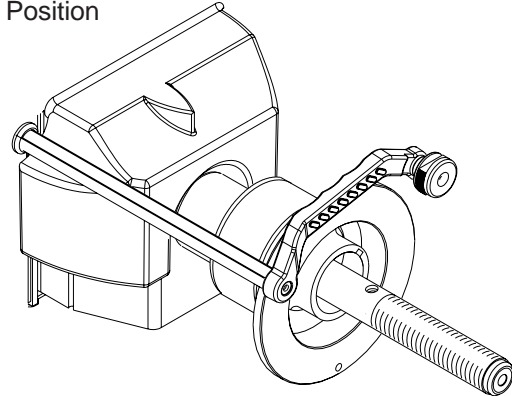

Figure 42 - SAPE Rod Arm Fully Extended
4. Gently pull the SAPE arm OUT until it is fully extended, (Figure 42) hold it steady for about 1 second a tone will sound.